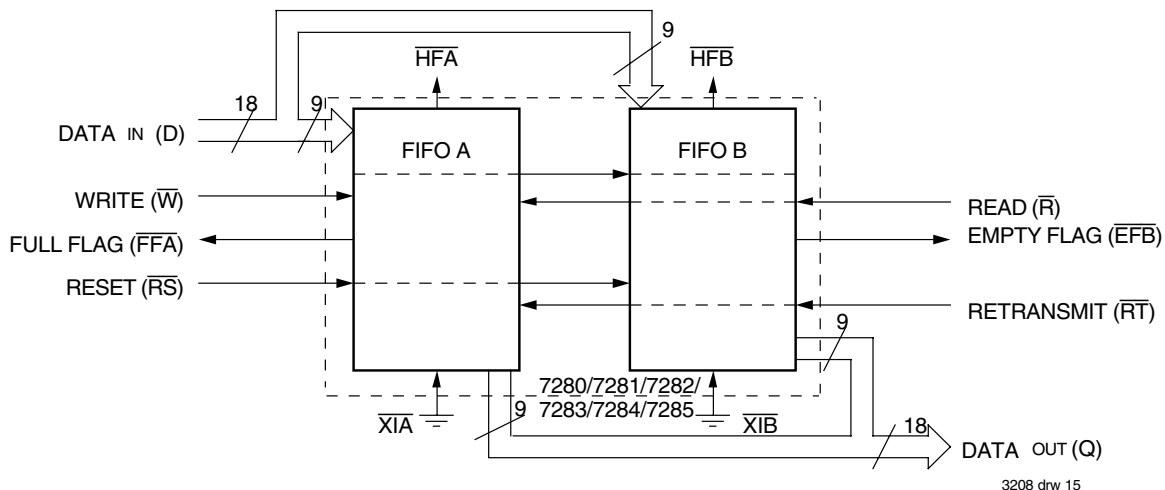

Figure 13. Block Diagram of 256 x 18, 512 x 18, 1,024 x 18, 2,048 x 18, 4,096 x 18, 8,192 x 18 FIFO Memory Used in Width Expansion Mode
Word width may be increased simply by connecting the corresponding input control signals of multiple FIFOs. Status flags ($\overline{EF}$, $\overline{FF}$ and $\overline{HF}$) can be detected from any one FIFO. Figure 13 demonstrates an 18-bit word width by using the two FIFOs contained in the IDT7280/7281/7282/7283/7284/7285s. Any word width can be attained by adding FIFOs (Figure 13).
2. For Flag detection see section on Width Expansion and Figure 13.